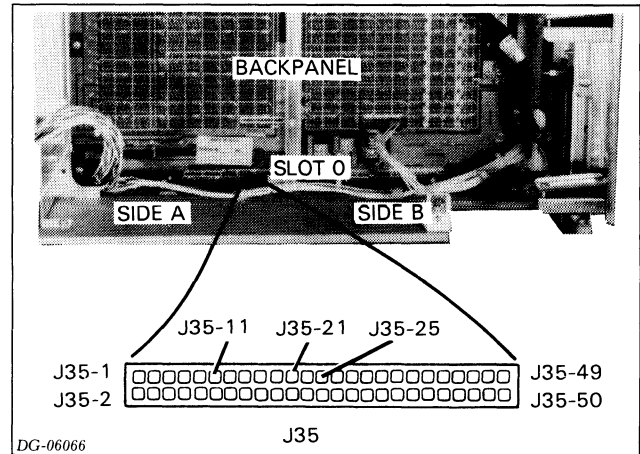

Figure 6.7 Jack 35
4. Short MEMD at J35-21 to GND at J35-1 (see Figure 6.7). Before continuing the checkout, make sure you have shorted the correct pins.
- Check the -11V voltage at J35-25 (see Figure 6.7).
- b. If the light is NOT on, check the **ONLED-P** voltage at J35-11 (see Figure 6.7).
2. Check the +12 MEM voltage at location J35-3 (see Figure 6.7).